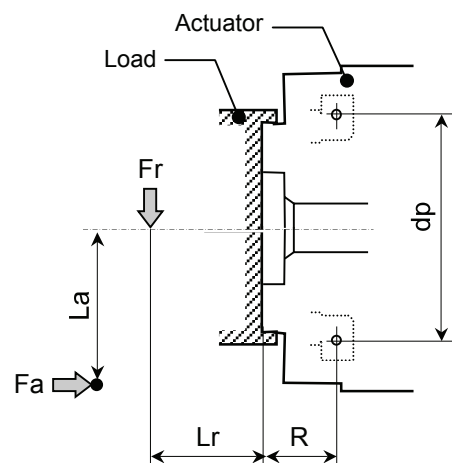

Fig.1 Loads
F_{rmax} : Maximum radial load in N(kgf); See Fig.1.
F_{amax} : Maximum axial load in N(kgf); See Fig.1.
L_r , L_a : Loading point in mm; See Fig.1.
R : Offset: See Fig.1 and Table 1.
Frmax: Maximum radial load in N(kgf); See Fig.1.
Famax: Maximum axial load in N(kgf); See Fig.1.
Lr, La: Loading point in mm; See Fig.1.
R: Offset; See Fig.1 and Table 1.
dp: Circular pitch of roller: See Fig.1 and Table 1.
- F_{rav}: Average radial load in N(kgf); obtained by formula (2).
- F_{aav}: Average axial load in N(kgf); obtained by formula (3).
- d_p: Circular pitch of roller: See Fig.1 and Table 1.
- X: Radial load factor; obtained by formula (5)
- L_r, L_a: Loading point in mm; See Fig.1.
- R: Offset; See Fig.1 and Table 1.
- M_{max}: Maximum torsional moment in N•m(kgf•m); obtained by the formula (1)
- Fr_{max}: Maximum radial load in N(kgf); See Fig.1.
- F_{a_{max}}: Maximum axial load in N(kgf); See Fig.1.